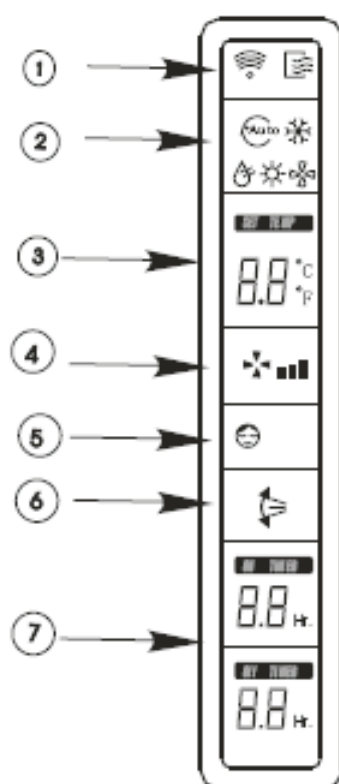

Fig. 2
**▲ NOTE:** All items are shown in the Fig.2 for the purpose of clear presentation But during the actual operation only the relative functional items are shown on the display panel.